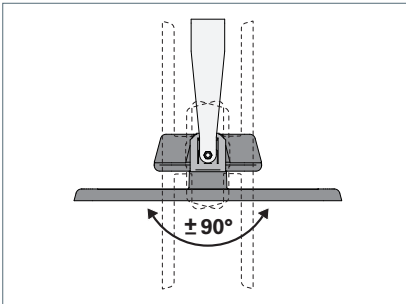

Fig. 10: Aligning the luminaire.
- ▶ Align the luminaire, see Fig. 10.